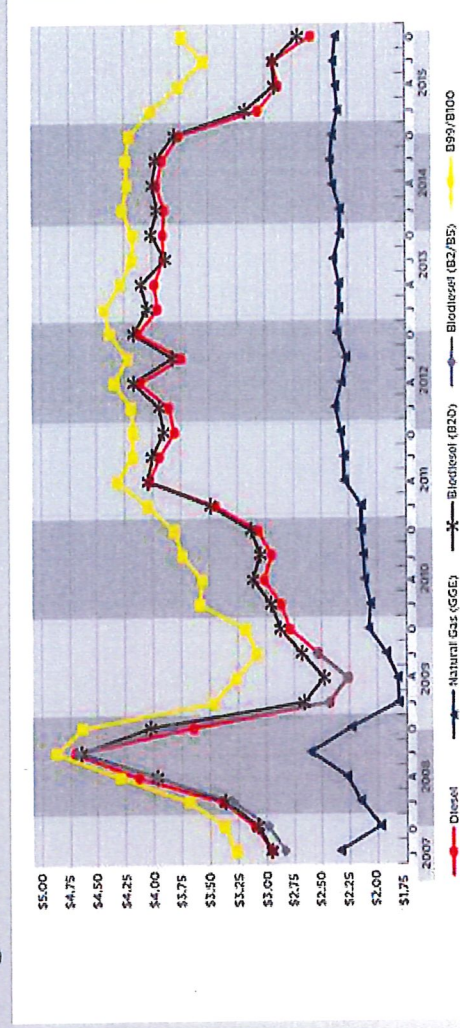

Figure 3: Historical Fuel Cost (Natural Gas Cost at diesel gallon equivalent unit) (Oct 2015 US Dept. of Energy)
- ❖ The price of natural gas can be compared to the price of diesel fuel by converting the cost of natural gas to diesel gallon equivalent units. Figure 3 illustrates the historical cost of natural gas, converted to diesel gallon equivalent units, compared to other diesel fuel and other alternative fuels.